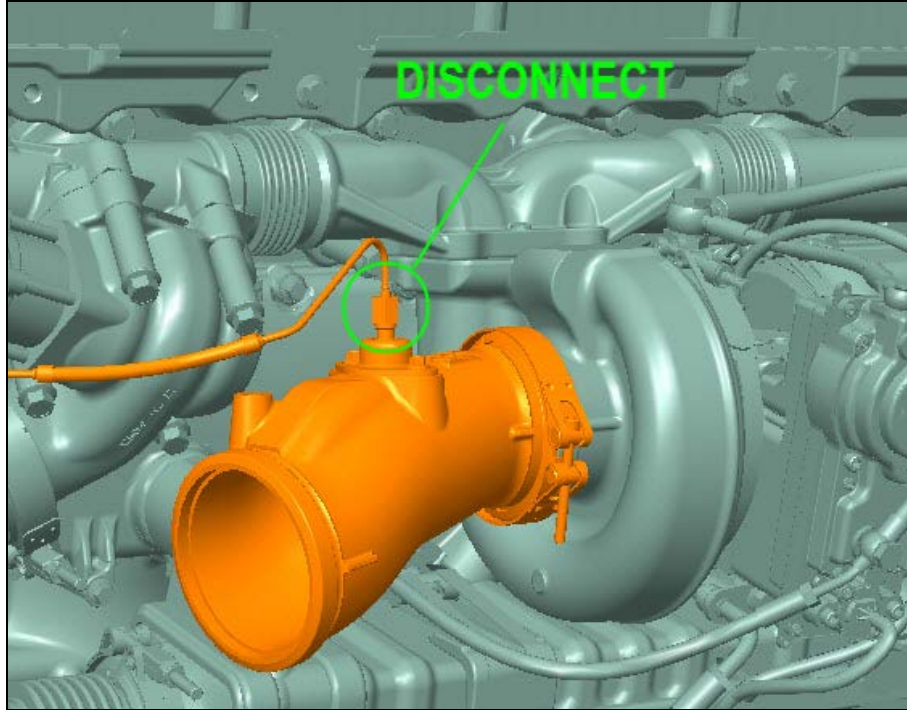

Figure 2
- 3) Disconnect the fuel line going to the AHI nozzle (Figure 2).